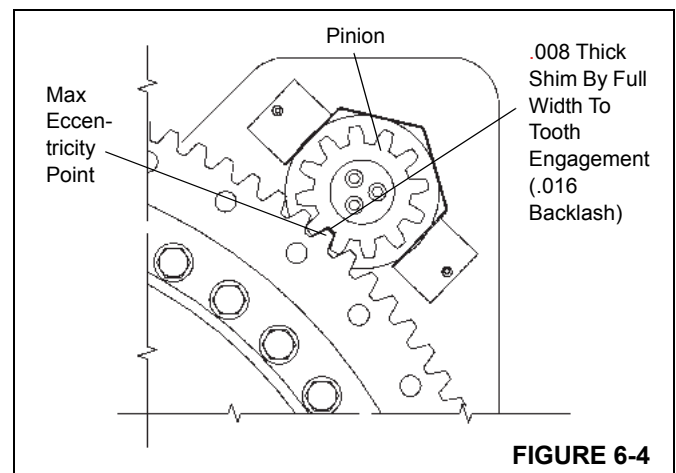

FIGURE 6-4
5. Install the gearbox pinion aligning the high point (maximum eccentricity) on the turntable bearing. Using a 0.008 in (0.203 mm) thick shim, check the backlash (Figure 6-4). If the pinion must be moved to achieve proper backlash, contact your local distributor.